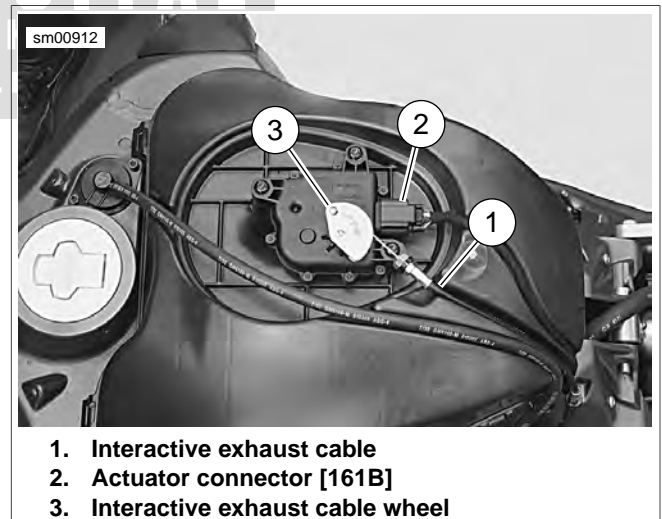

Figure 6-114. Exhaust Actuator (XB12 Models)
4. See Figure 6-114. Separate exhaust actuator harness connector [161B] (2) at main harness.
7. See Figure 6-114. Disconnect connector [161B] (2) from actuator.
1. See Figure 6-114. Connect actuator connector [161B] (2) to actuator.
4. See Figure 6-114. Connect exhaust actuator harness connector [161B] (5).